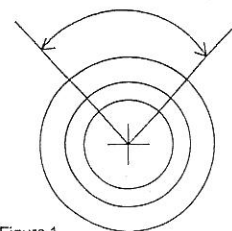

Figure 1
- Continuous Service** – Moisture and debris should not be allowed to enter the tubes leading into the gauge, as it may affect the gauge. Orient the gauge between 10 o'clock and 2 o'clock when viewed from end. (See Figure 1).